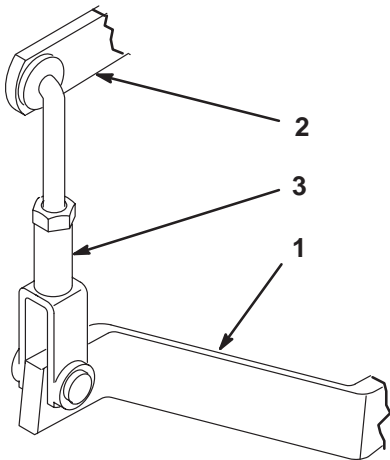

Figure 59
3. Loosen the jam nut on the clevis. Remove the cotter pin securing the top of the clevis to the upper brake lever (Fig. 59). Rotate the clevis, one turn at a time, to decrease the distance between the levers.